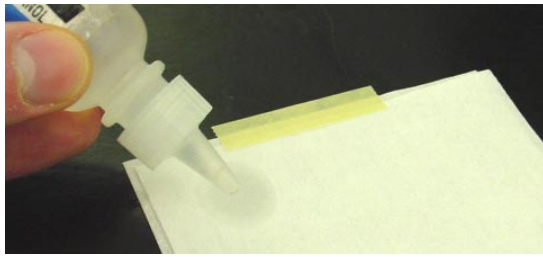

Figure 2
5. Moisten a corner of the top wiper with the isopropyl alcohol. See Figure 2.